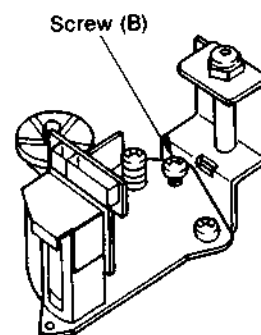
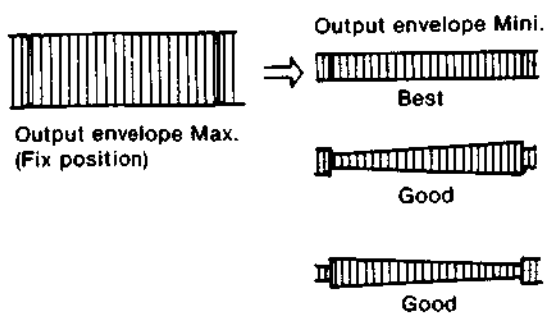

Fig. 2-25
Fig. 2-26
- Adjust horizontal position screw pos. no. 36(1) of the A/C head, see Fig. 2-25 so that the RF signal becomes maximum, see Fig. 2-26.
- The symmetry of the FM envelope, can be checked after pressing the "TRACKING" button. The output level must be almost equal as shown in Fig. 2-26.